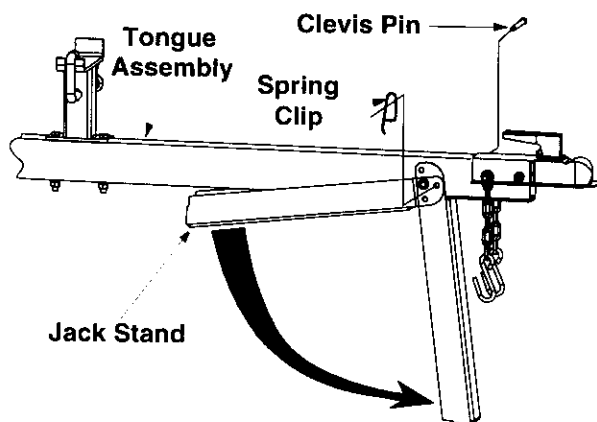

Figure 4
- Remove the spring clip and the clevis pin from the jack stand. Pivot the jack stand to the operating position (90°), and secure with the spring clip and clevis pin. See Figure 4.